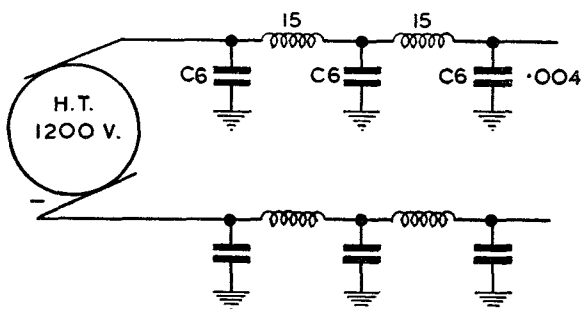

FIG. 84C.—H.T.—P.U. SMOOTHING
- H.T. short to earth caused by :—C.6 ($\cdot 004 \mu\text{F.}$) condensers (fig. 84C) breaking down, with cables disconnected test between power unit H.T.+ plug and frame. If the condensers are serviceable check the power cables. These should be tested for "shorts" due to dampness or dirt, and between core and screens for insulation.